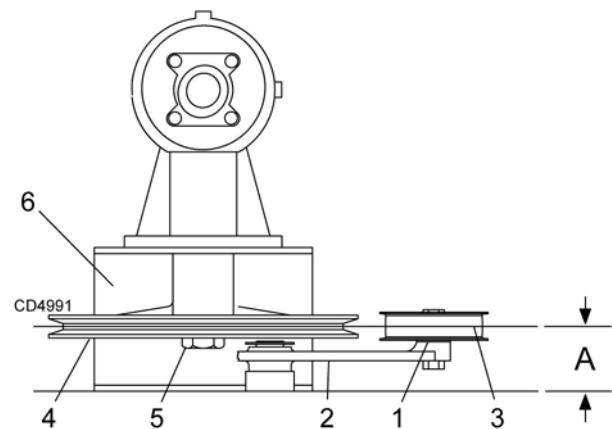

Figure 25. Drive Sheave Installation
1. Install drive sheave (2) and key (3) on gearbox output shaft.
2. Install sleeve (9), washer (4), and castle nut (5) on gearbox output shaft. Torque castle nut to 170 lb-ft. Install cotter pin (6) through castle nut and gearbox output shaft.
3. Slide gearbox onto gearbox stand. When gearbox is installed on mower, dimension A (from the top of mower deck to the center line of the drive pulley) must be 1-9/16" ( $\pm$  1-32"). **This is a critical dimension and must be carefully adjusted for proper belt life.** Add or subtract shim washers under idler sheave to align with drive sheave. See Figure 25.
4. Install carriage bolts (8) and new flange lock nuts (7) through gearbox base. Torque nuts to 175 lb-ft.